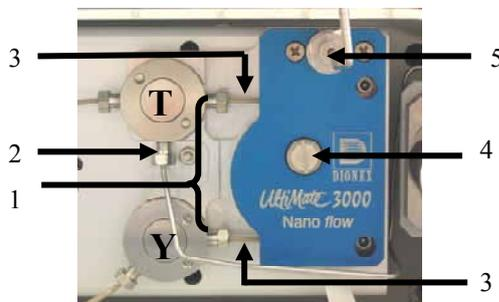

Fig. 43: Splitter cartridge
2. Disconnect the capillary on the flow splitter inlet (→ no. 5, Fig. 43).
3. Disconnect the fittings on the splitter cartridge outlets (→ no. 1, Fig. 43).
4. Loosen the cartridge screw (→ no. 4, Fig. 43).